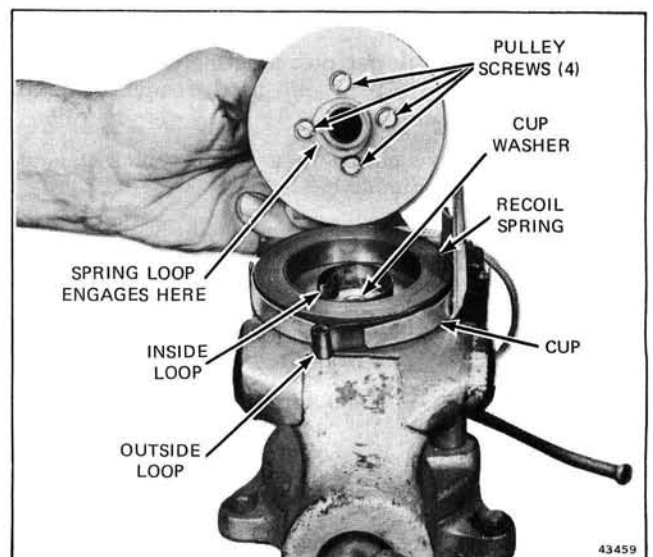
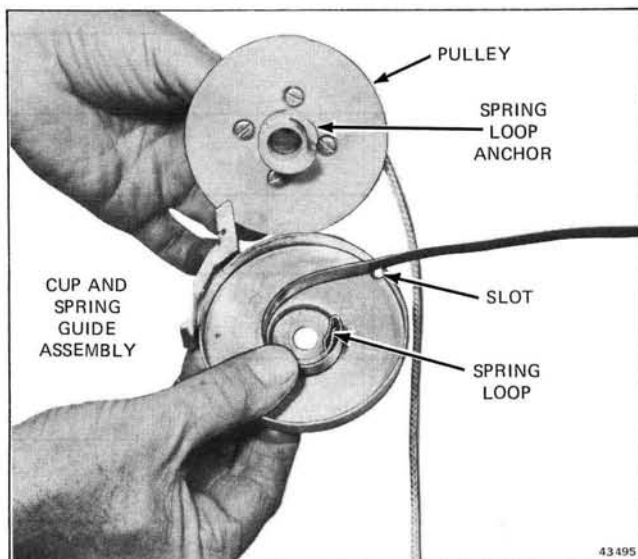

Figure 8-7. Pulley Removed
Figure 8-10. Spring Position in Cup
5. Remove four screws and separate pulley to remove rope. See Figures 8-7 and 8-8.
7. Place cup washer in cup, if removed, and install pulley. Rewind spring loop must engage pulley as shown in Figure 8-7.
5. Remove four screws, separate pulley halves, and remove rope. See Figure 8-7.
3. Position rewind spring in cup as shown in Figure 8-10. Place cup washer in cup. Install pulley making sure spring loop engages pulley as shown in Figures 8-7, 8-10.
5. While holding cup, use pulley to wind spring into cup in a counterclockwise direction as viewed from top of pulley. When excessive resistance is felt, feed spring into cup through slot to relieve spring tension. Continue to wind and feed until outside loop end of spring is drawn against cup. See Figures 8-7, 8-11.